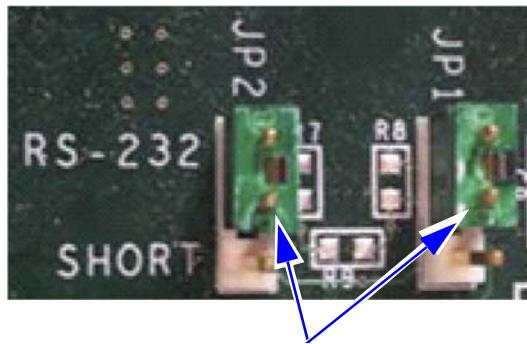

Figure 3-3 Installing the RS-232 Jumpers (Component Side of Isolation Board)
- 26.4 Locate JP1 and JP2 on the component side of the isolation board and install jumpers on JP1 and JP2 as shown in Figure 3-3.